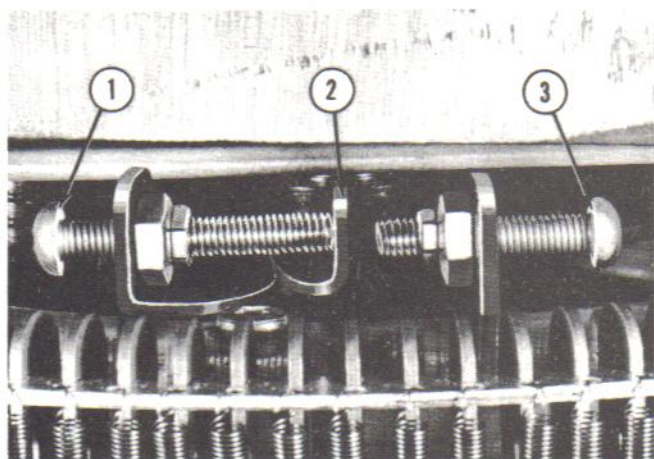

Fig. 51. STOP SCREW ADJUSTMENT, 2504
(2) Turn the stop screw (Fig. 51, Item 1) in until it touches the latch lever (Item 2).
(3) Hold the latch lever against the stop screw (Item 1) while turning the screw out, until the plunger is released. Turn the screw out an additional half turn for overtravel.
(4) Check this adjustment with the power "off" by releasing an odd number selector pin. Manually turn the record carrier until the crank arm engages the released pin and releases the plunger. Continue turning the record carrier by manually turning the changer motor shaft clockwise until the plunger latch lever (Fig. 51, Item 2) is held firmly against the stop screw (Item 1) by the actuating screw (Item 3). The overtravel between the left hand back stop pawl and the correct tooth on the index wheel should be $\frac{3}{16}$ of an inch maximum.